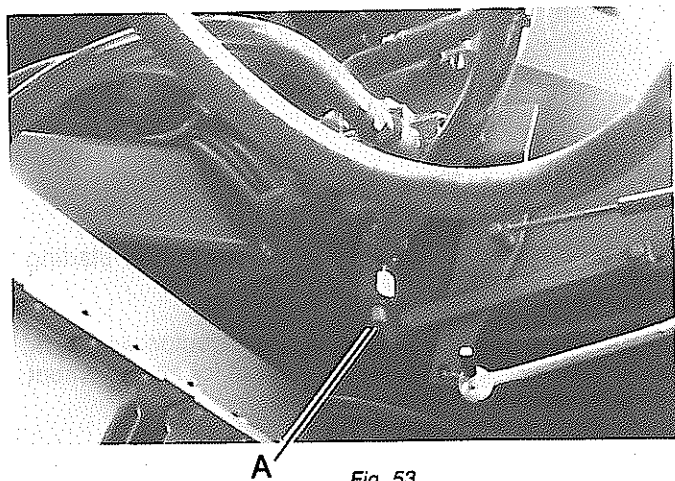

Fig. 53
2. Remove the ¼ inch JIC cap from gauge port (A), see Fig. 53.
3. Connect a 5,000 p.s.i. hand-held gauge onto port (A).